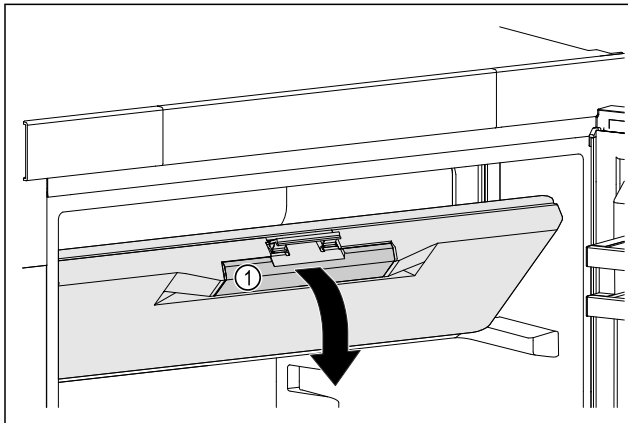

Fig. 48
- ▶ Hold the freezer compartment door by the recessed handle Fig. 48 (1).